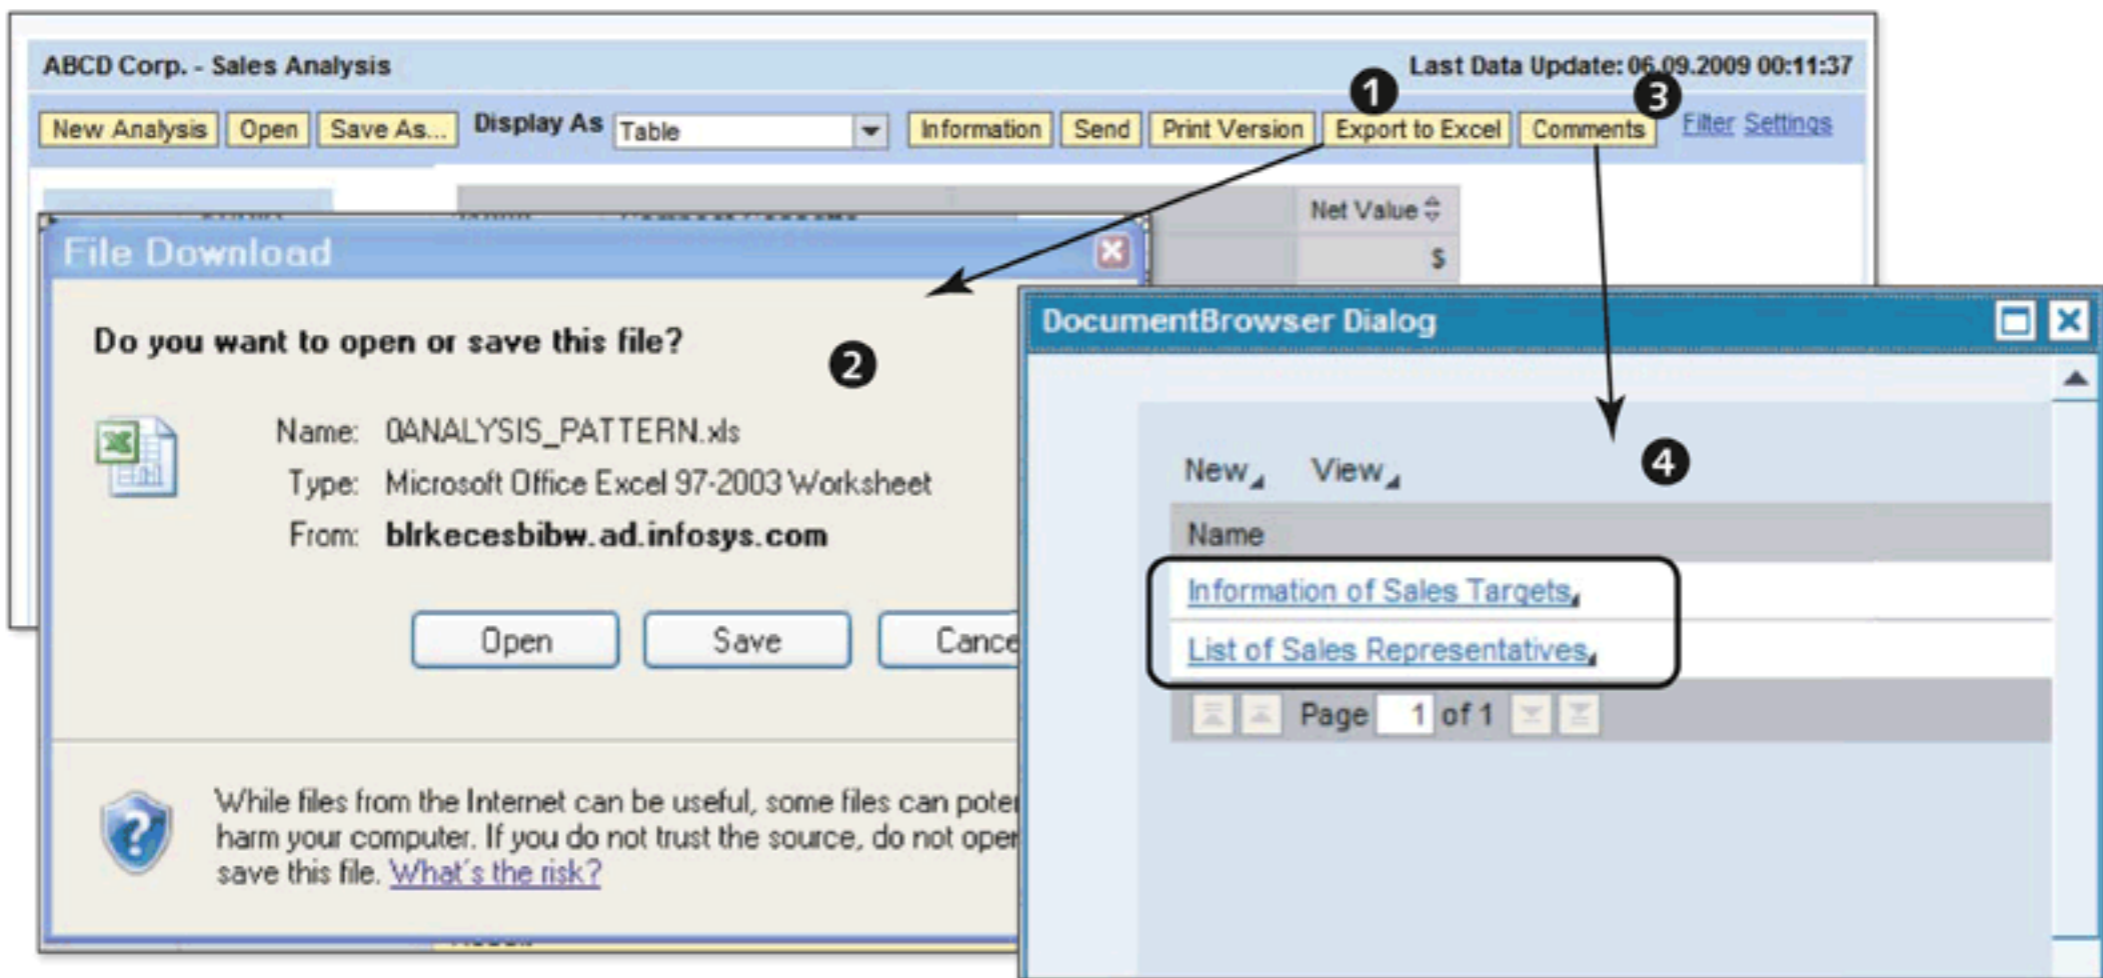

Figure 10.47 BEx Web Analyzer Function: Export to Excel and Comments
Use this function (❶ of Figure 10.47) to download the analysis in Excel (❷).
You can create or maintain comments/documents for the data provider using the COMMENTS (or NOTES) function button (❸ of Figure 10.47). All of the existing documents created on the data provider are displayed for viewing and editing (❹).